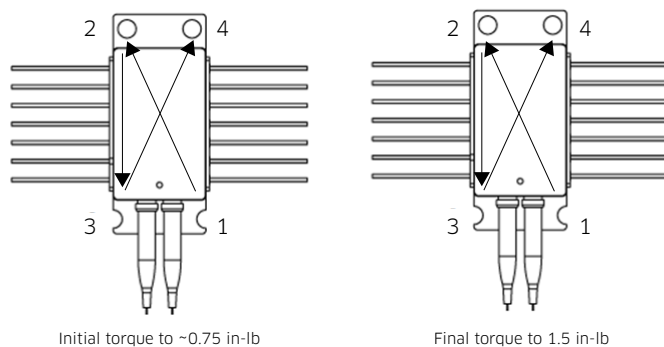

Figure 2 Bolting pattern and torque specifications for mounting a D2 module
- Follow 1~4 sequence to mount screw to fix the pump module, as shown in Figure 2.